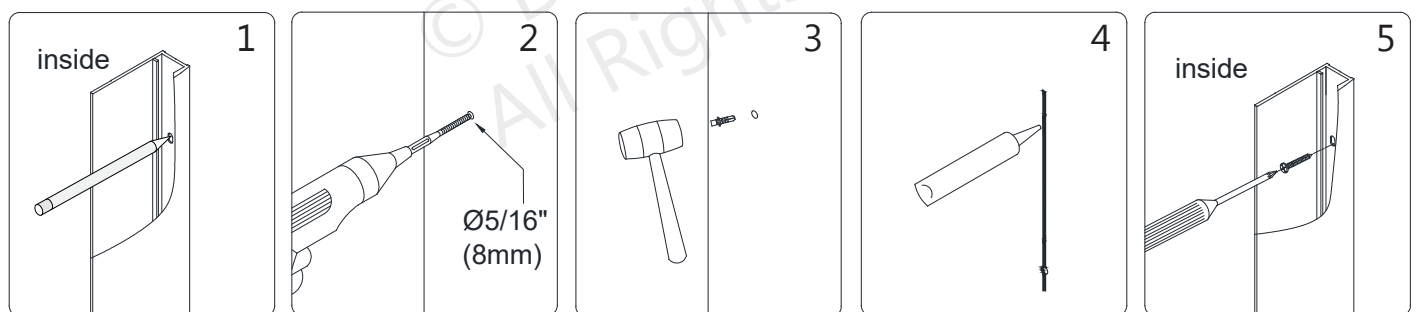

Fig 6
6. Remove the **Wall Profile (#09)** from the **Glass Profile (#10)/Panel Glass (#11)** assembly. Place the **Wall Profile (#09)** back onto the outlined position on the wall and mark the holes for drilling through the predrilled holes in the **Wall Profile (#09)**. Drill the holes in the wall using a $\text{Ø}5/16''$ drill bit and insert the **Wall Anchors (#13)**. Apply silicone along the back of the **Wall Profile (#09)** and around the holes on the wall. Fasten the **Wall Profile (#09)** to the wall with the **Truss Head Screw ST4.2×40 (#15)**. (**Fig 6**)